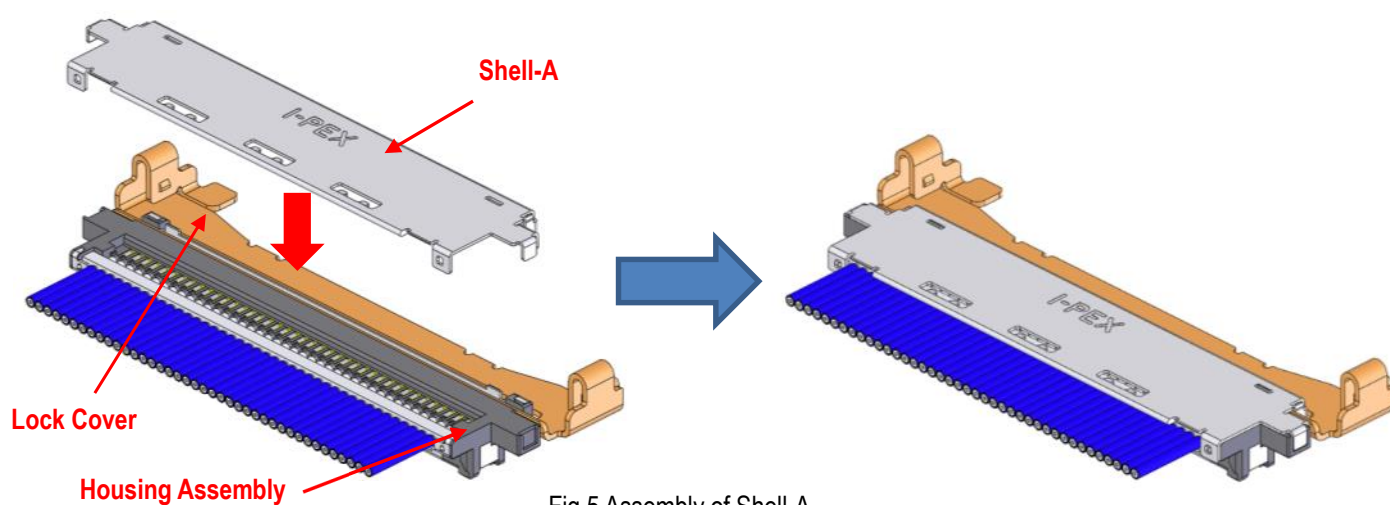

Fig.5 Assembly of Shell-A
- ① As show in Figure 5, shell-A is assembled from the upper side of housing assembly.